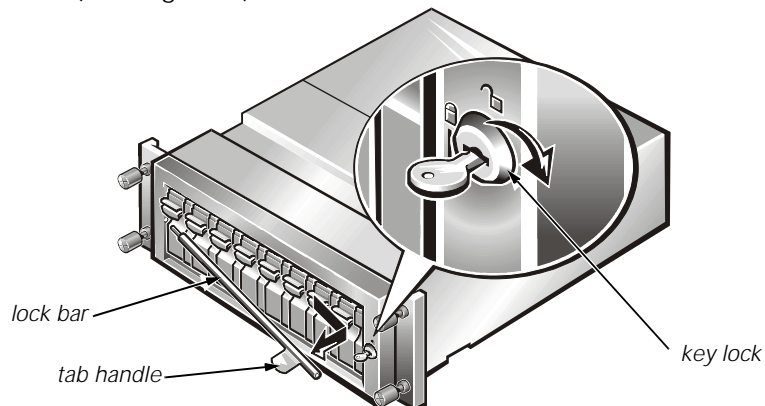

Figure 2. Keylock and Removable Lock Bar (Black)
NOTICE: To avoid damage, do not pull the tab handle of the black, removable lock bar out too far. Figure 2 shows the lock bar at an exaggerated angle (after it is completely out of its hole).
- b. Slide the left end of the lock bar to the right to remove it from its hole (see Figure 2).